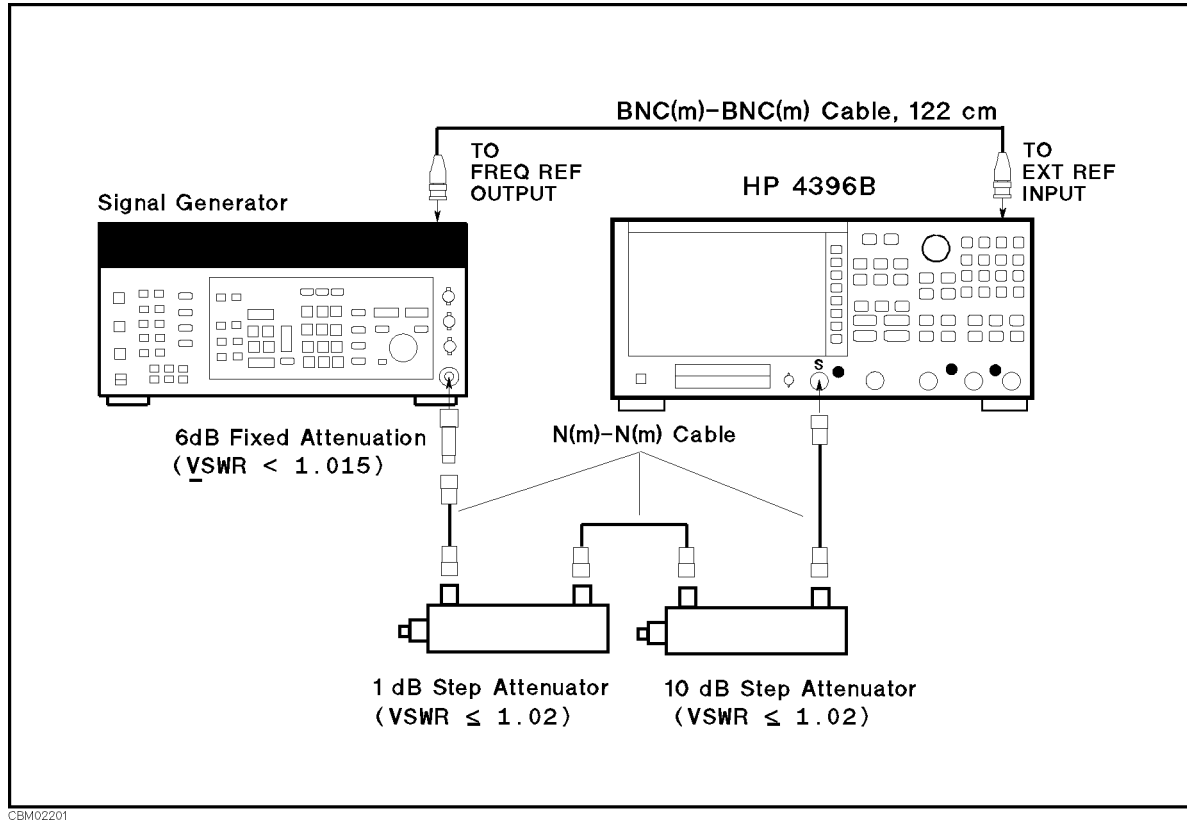

Figure 2-24. IF Gain Switching Uncertainty Test Setup
4. Connect the test equipment as shown in Figure 2-24.
Connect the signal generator's 10 MHz frequency reference output to the 4396B EXT REF Input on the rear panel as shown in Figure 2-24. With this configuration, both the signal generator and the 4396B are phase locked to the same reference frequency to obtain a stable measurement.